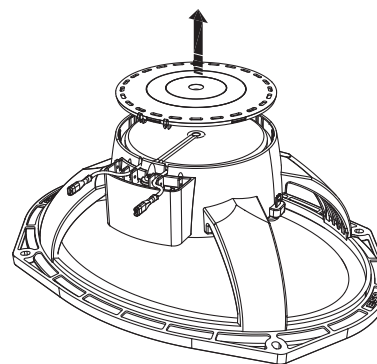

Fig. 3
- 3- Remove the back cup cover (Fig. 3).